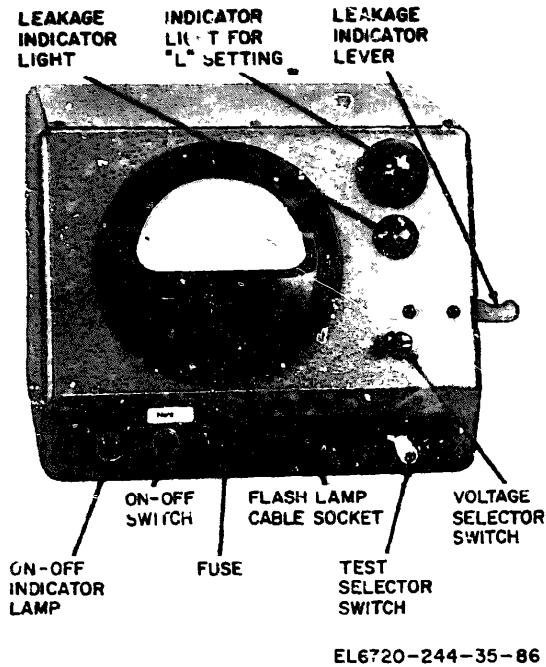

Figure 6-7. Synchronizing circuit test instrument 42-531-21Z1W13.
- (1) Synchronizing circuit test instrument 42-531-Z1W13 (fig. 6-7).
- (2) Connecting cable 42-253.04.